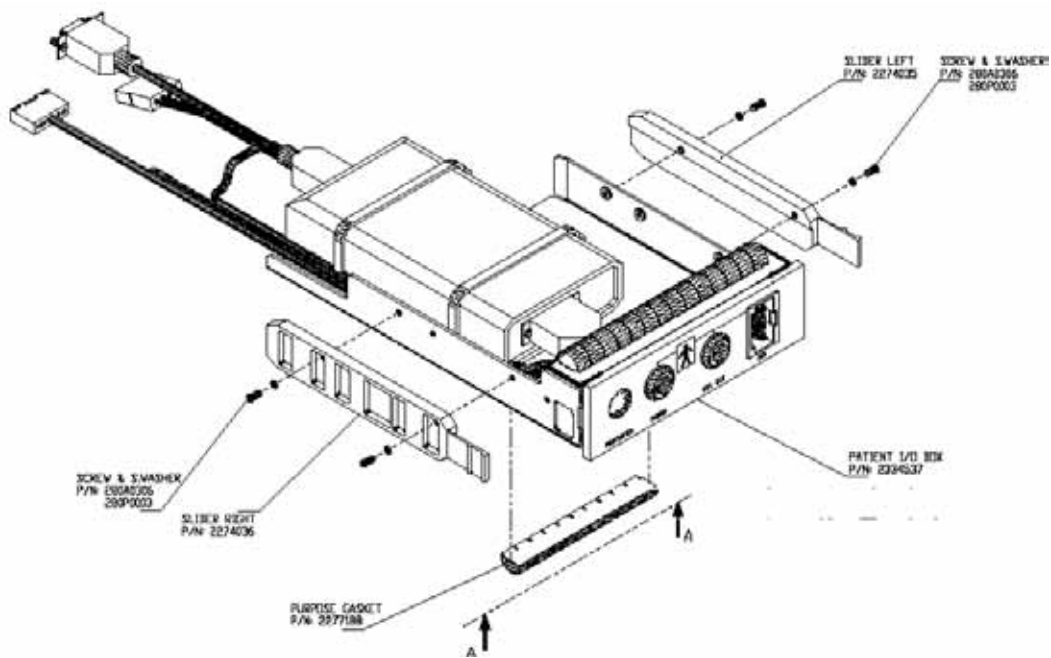

Figure 8-69 ECG Module with Rail Attached
- 1) If necessary, assemble the side rails onto the new ECG Module as shown in Figure 8-69 below.